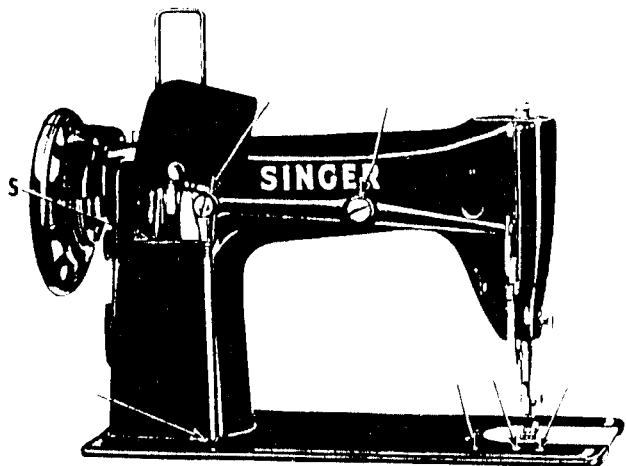

Fig. 3. Rear View—Oiling Points
- Oil feed regulator linkage mechanism through rear opening S, Fig. 3.